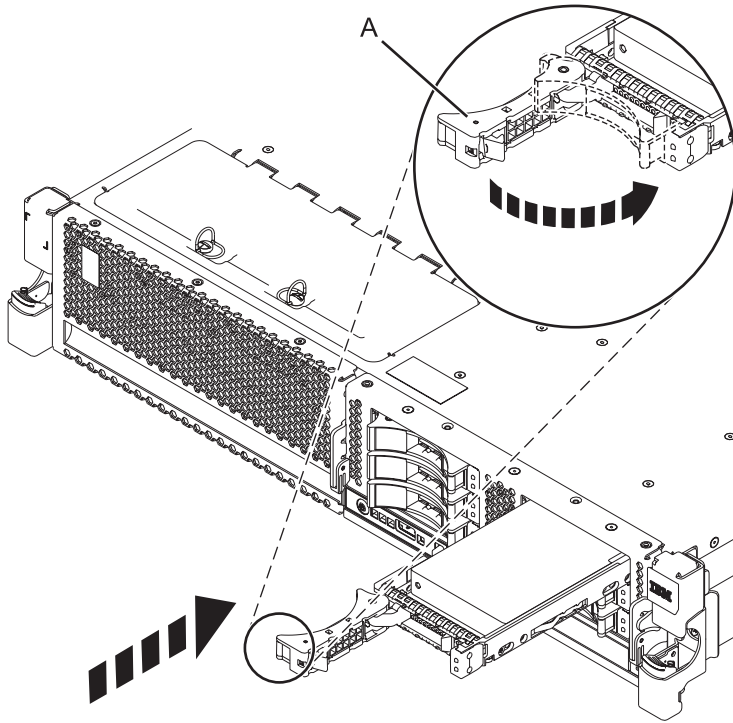

Figure 1. Installing the disk drive in the system
6. When the identify LED turns on solid, slide the drive all the way into the system or an expansion unit, and push the drive handle (**A**) in until it locks. See Figure 1 on page 8.